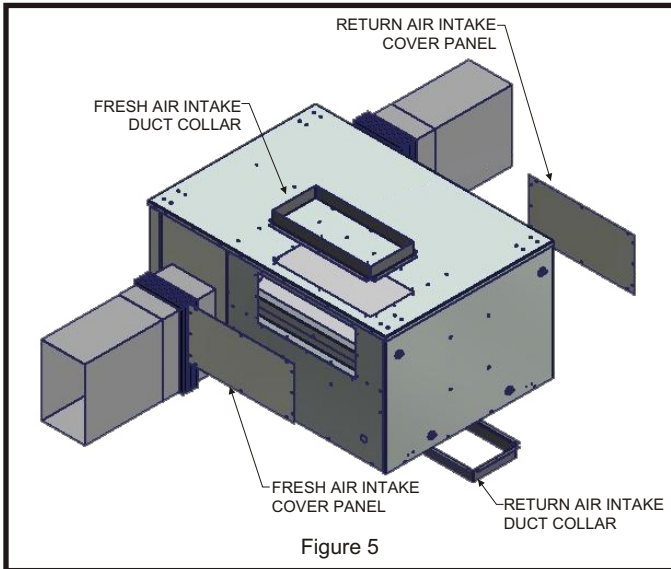

Figure 5
9. Attach fresh air duct collar to top fresh air intake and secure with provided screws. **See Figure 5.**
10. Attach return air duct collar to bottom return air intake and secure with provided screws. **See Figure 5.**
11. Attach fresh air cover panel to lateral fresh air intake and secure with provided screws. **See Figure 5.**
12. Attach return air cover panel to lateral return air intake and secure with provided screws. **See Figure 5.**